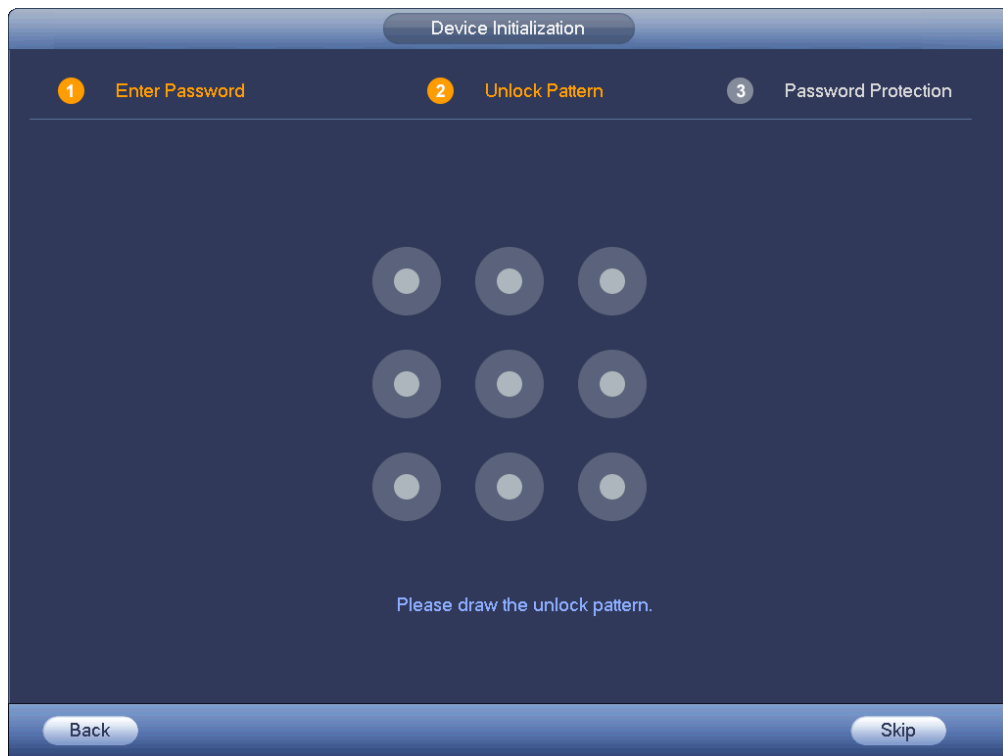

Figure 3-2
Step 3 Click Next and device goes to the following interface. See Figure 3-2.